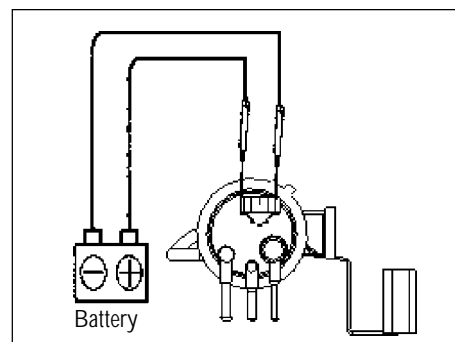

Figure 3-1
(1) Connect the positive and the negative of the battery to appropriate connector sockets of the fuel pump (see Figure 3-1).